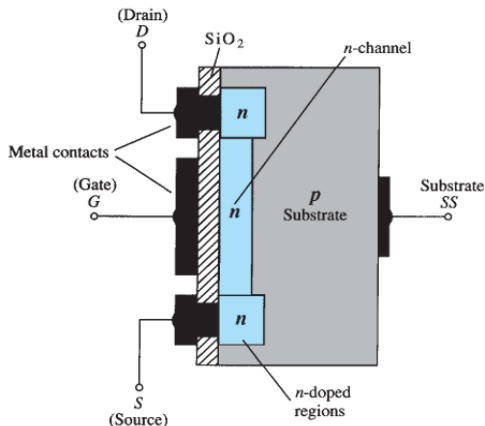

Figure 15: n-Channel depletion-type MOSFET with $V_{GS} = 0$ V and applied
- In Fig. 15 the gate-to-source voltage is set to 0 V by the direct connection from one terminal to the other, and a voltage V_{DD} is applied across the drain-to-source terminals.